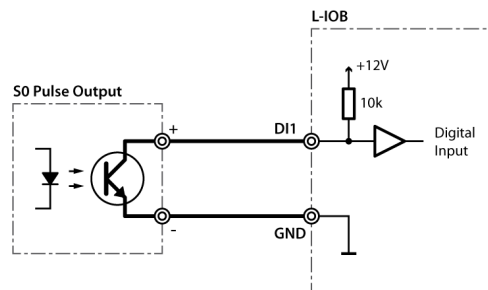

Figure 291: S0 pulse meter connected to DI
S0 pulse meters must be connected to digital inputs (DI) as shown in Figure 291.